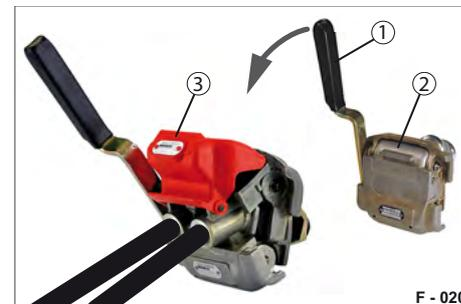

Fig. 20 Duo-Matic, coupled
- ▶ Push the handle (Fig. 20/1) of the Duo-Matic quick-release coupling socket downwards and slide the coupling head (Fig. 20/3) under the opened protective cover.